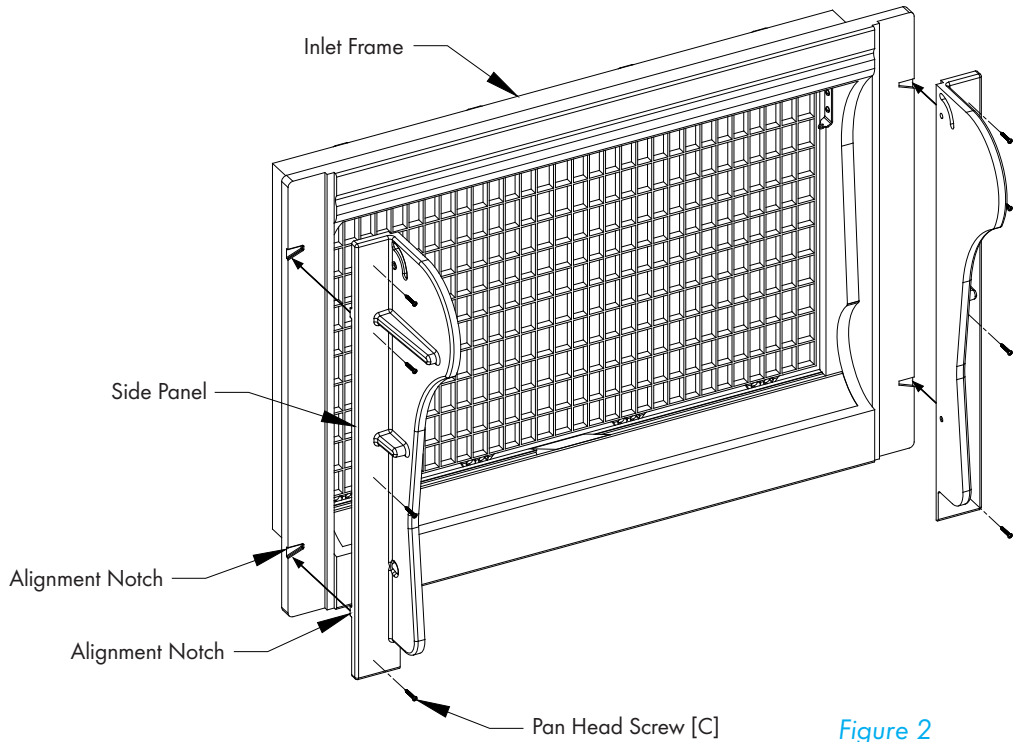

Figure 2
Find the Inlet Frame and secure (2) Side Panels to it using (8) Pan Head Screws [C]. Make sure Side Panels are aligned and fully seated to Inlet Frame before securing. See Figure 2.